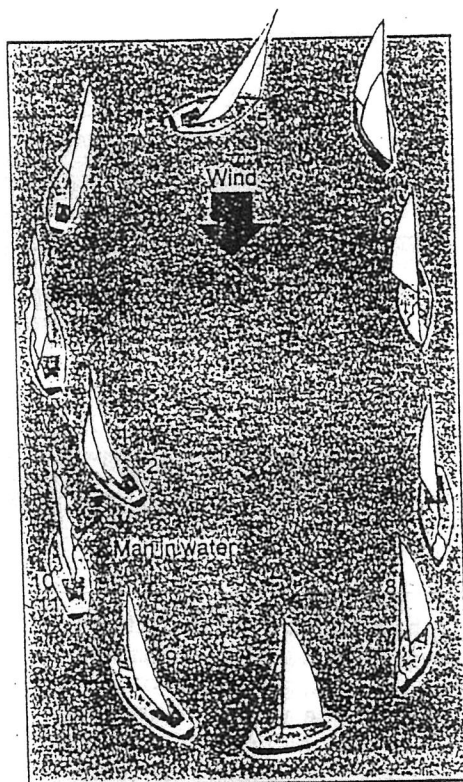

Fig 1. Quick stop. Eleven steps to a quick man-overboard recovery.
1. Shout "man overboard" and IMMEDIATELY bring the boat head-to-wind and beyond (Figure 1). If available, designate a crewmember to spot the victim's position in the water. The spotter should not take his eyes off the victim.